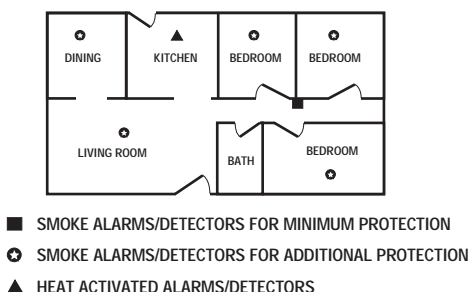

Figure 2.Family units with one bedroom area.
- ❑ NFPA 72, A-8-1.2.1.a *Where to Locate the Required Smoke Alarms/Detectors in Existing Construction.* The major threat from fire in a family living unit occurs at night when everyone is asleep. The principal threat to persons in sleeping areas comes from fires in the remainder of the unit. Therefore, a smoke alarm(s)/detector(s) is best located between the bedroom areas and the rest of the unit. In units with only one bedroom area on one floor, the smoke alarm(s)/detector(s) should be located as shown in Figure 2.